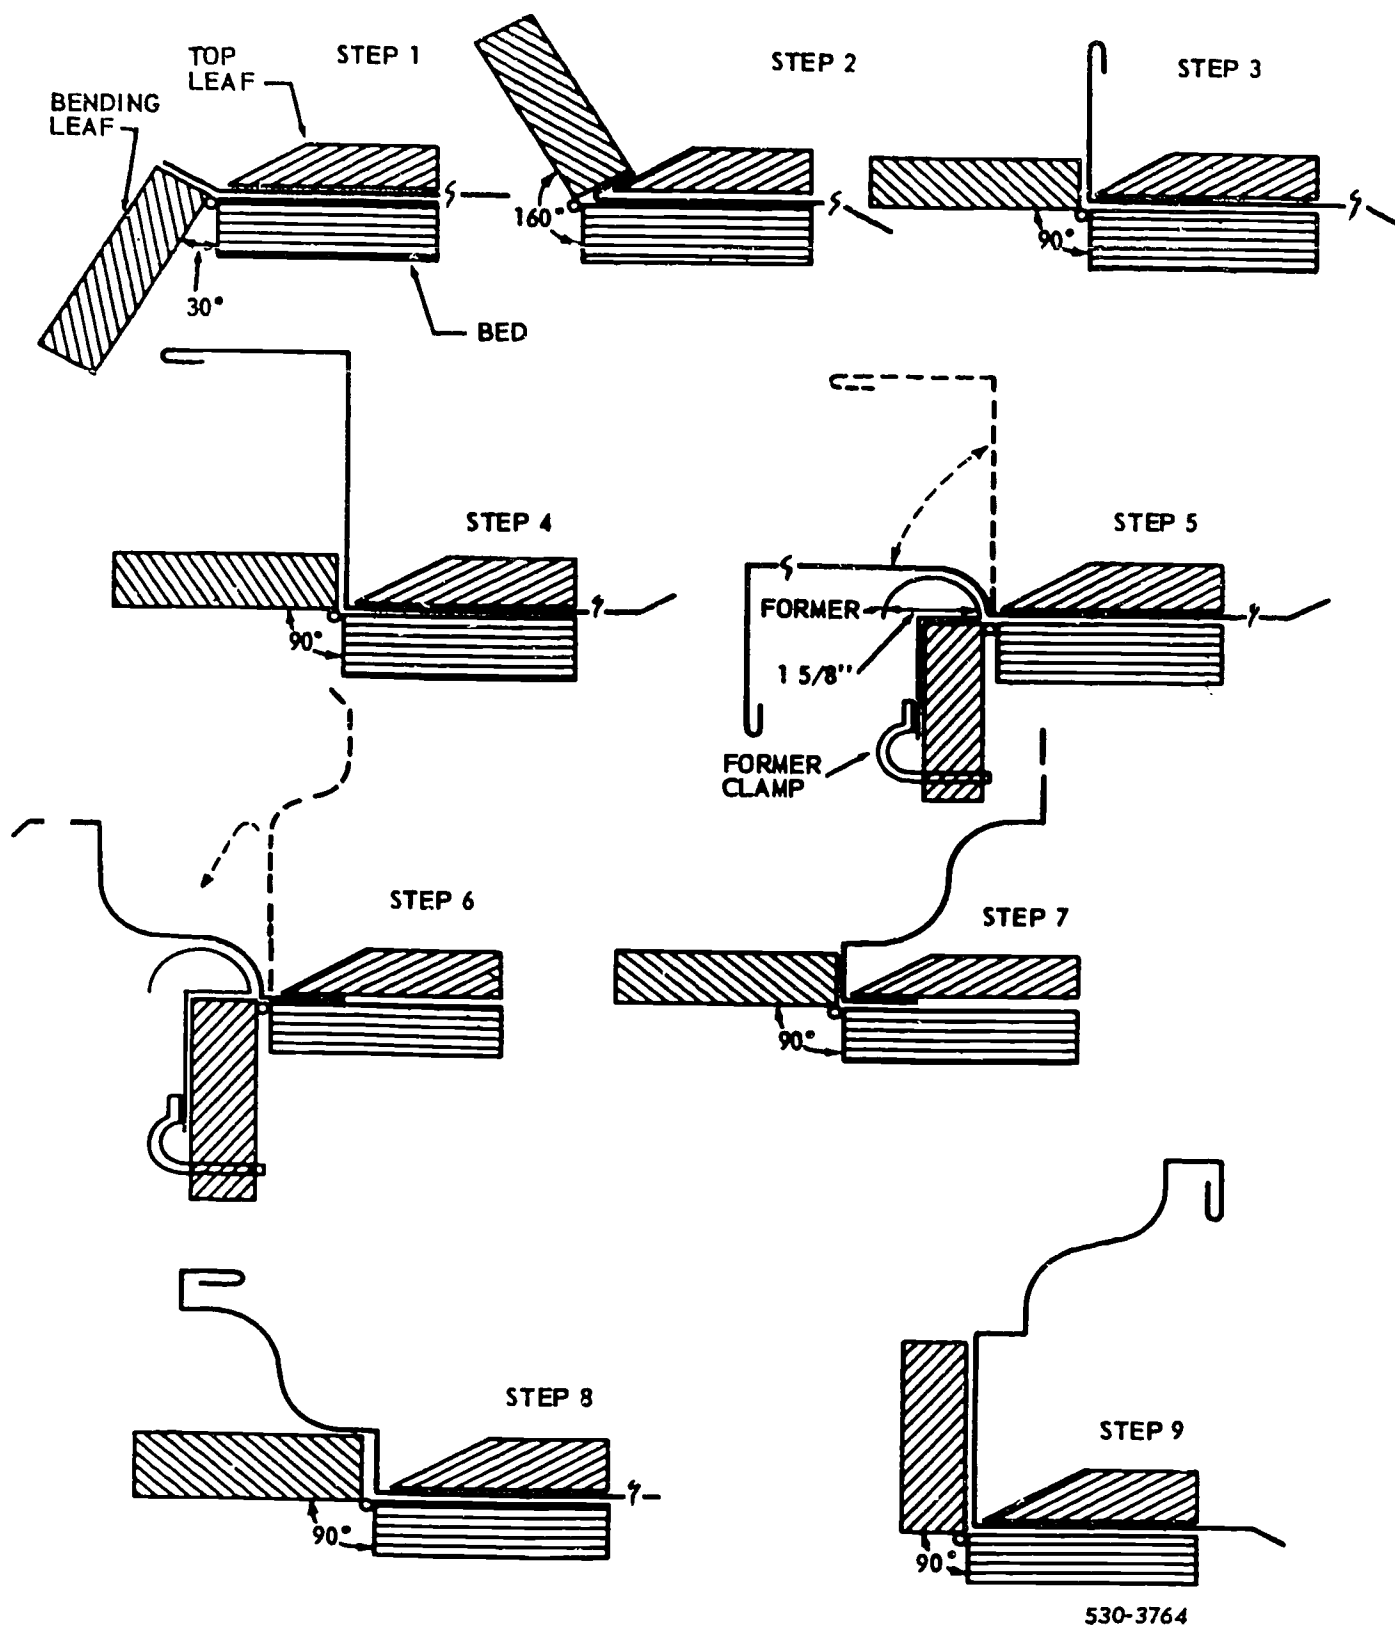

Figure 3-25. Forming ogee box gutter on the cornice brake.
For bend 5 of figure 3-25, install the former by placing it on the bending leaf and installing the clamps. Use a mallet to set the clamps tightly, so that the former is held firmly to the bending leaf. To make bend NO. 5, insert the metal under the top leaf as far as the No. 4 bend. With the metal clamped in place, grasp the metal. Spread your hands about 24 inches apart, and pull the metal down until it is parallel with the bed, as shown for bend No. 5. Take the metal out of the brake, turn it over, clamp the 1-inch flange under the top leaf, and pull the metal down with your hands to make bend No. 6. Make these two bends (Nos. 5 and 6) on both pieces of metal, so that the former can be removed. Remove the former and continue with bends 7, 8, and 9. Make the No. 7 bend 90° as shown in figure 3-25. Turn the metal around and make the No. 8 bend 90°. Make the No. 9 bend 90°, to complete the forming of the first pattern. Make bends 7, 8, and 9 on the second pattern, to complete the forming of the second piece of gutter.
4. In making two lengths of gutter shaped as indicated in figure 3-25, what bends do you make after the second 90 bend, and why?